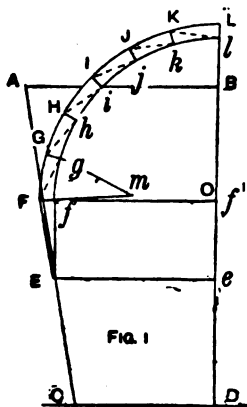

FIG. 1
**Pattern for Conical Rim.**—It is assumed that a copper hoop is to be put round a wooden bucket to ornament it. Below is explained how to draw a plan to which to cut the copper so that it will fit snugly to the shape of the bucket. The pattern wanted is a frustum of a right cone, and to set this out to the correct taper first draw a semi-elevation of the bucket as A B D C (Fig. 1). Next draw the position of the rim F' f' e E, and from E draw a line E f at right angles to E e, and draw F' f'. With f' as centre, and with F' f' as radii, draw quarter circles F' L and f' l to represent a quarter plan of the rim. Divide these quarter circles into an equal number of parts, as F, G, H, f, g, h, etc. Join F f, G g, etc., and also join F g, G h, etc., by dotted lines as shown. The lines F f, G g, H h, etc., will be the plans of a series of slants of the cone, and the dotted lines F g, etc., will be the plans of a series of diagonals. F' E is the slant of the frustum, and to find the slant of
the diagonal draw a line g m at right angles to the dotted line F g, and make g m equal to the line E f. Draw F m, which will be the true slant of the diagonal. To work the pattern, take the length F' E and set off on a straight line as F' f on the pattern (Fig. 2). Now take the true slant F m (Fig. 1) of the diagonal as radius, and using F' (Fig. 2) as centre, draw arcs to cut g g on each side of the centre line. With f' g (Fig. 1) as radius, and f' (Fig. 2) as centre, cut the arcs first drawn. Again use the slant F f (Fig. 2) as radius, and with the intersecting arcs g g as centres, describe arcs at the top of the pattern (Fig. 2). With F G as radius, and F as centre, cut the arc last drawn. Repeat this method of working for each division on the plan (Fig. 1), using the small and large divisions and slants and diagonals in their proper order, and make the number of divisions on the complete pattern equal to four times the number on the quarter plan; or if the rim is made in two pieces the divisions would be as shown by the accompanying patterns.